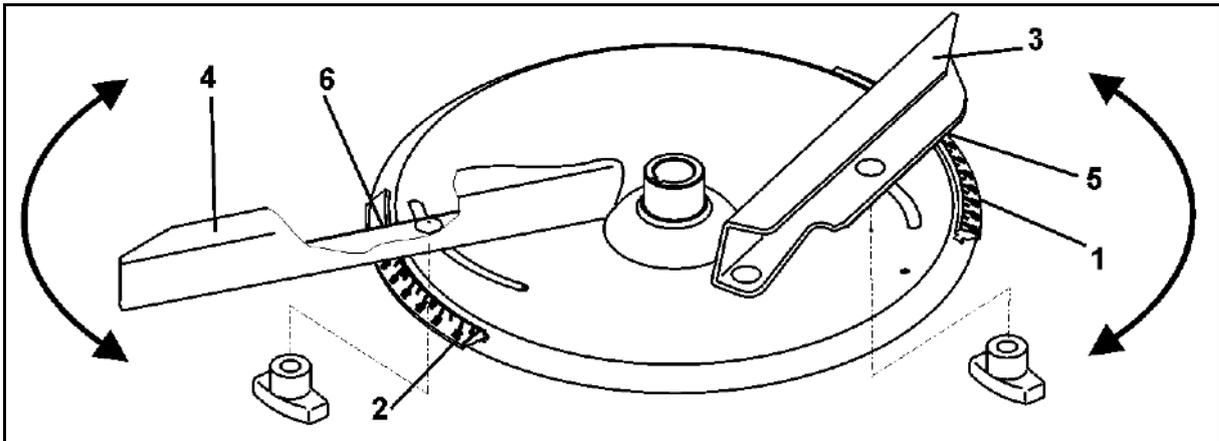

Fig. 91
Two different scales, designed so as to make it impossible to confuse them, are arranged on each spreading disc for precision setting of the individual spreading vane positions (Fig. 91/1 and Fig. 91/2).
- The shorter spreading vanes (Fig. 91/3) are assigned the scale (Fig. 91/1) with values from 5 to 28; the longer spreading vanes (Fig. 91/4) are assigned the scale (Fig. 91/2) with the values from 35 to 55.
- For the short spreading vane (Fig. 91/3), read off the set value on the read-off edge (Fig. 91/5).
- For the long spreading vane (Fig. 91/4), read off the set value on the read-off edge (Fig. 91/6).
- Swivelling the spreading vanes to a higher scale value (Fig. 91/1 or Fig. 91/2) increases the working width.